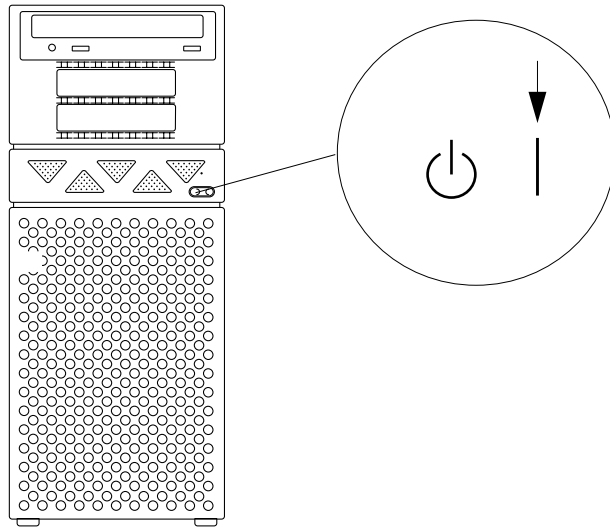
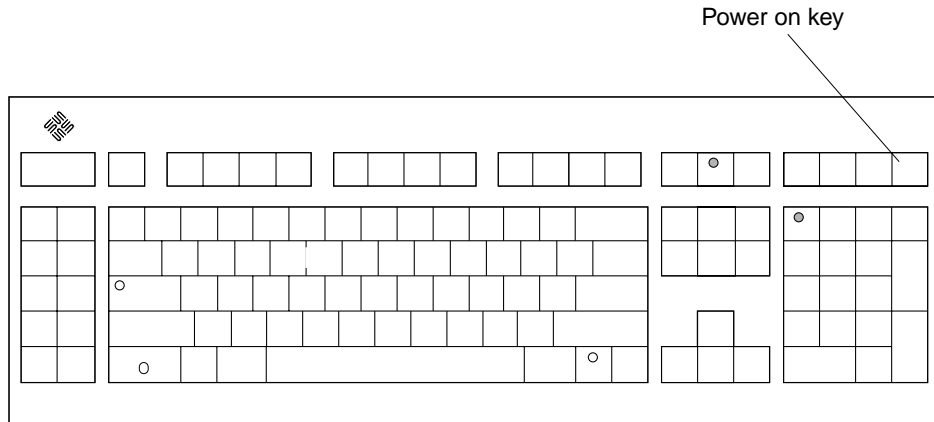

FIGURE 6-1 System Power On (Front Panel)
FIGURE 6-2 Sun Type-5 Keyboard
3. **Set the front panel power switch to the On position (FIGURE 6-1) or press the Sun Type-5 keyboard Power-on key (FIGURE 6-2).**